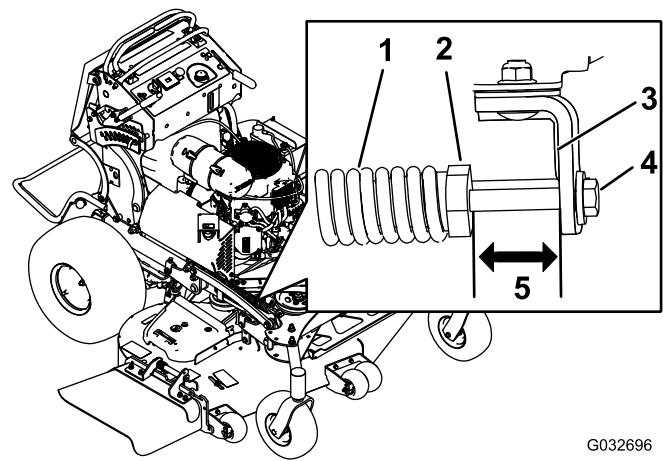

Figure 94
2. Check the distance between the spring nut and the rear side of the welded mount bracket (Figure 94).
3. Ensure that the length is 51mm (2 inches) for 48/52in decks, and 38mm (1.5 inches) for 60in decks as shown in Figure 94.
4. If needed, adjust the distance by adjusting the bolt on the front of the mount bracket (Figure 94).